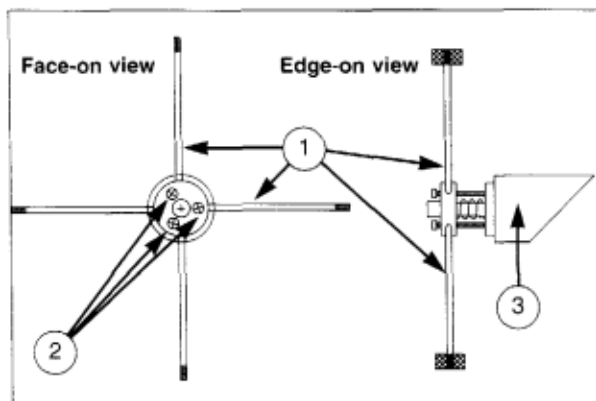
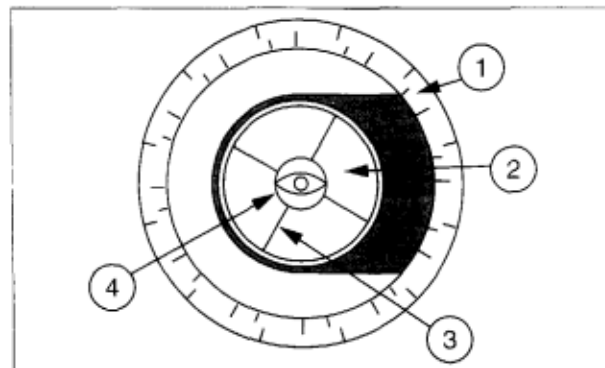
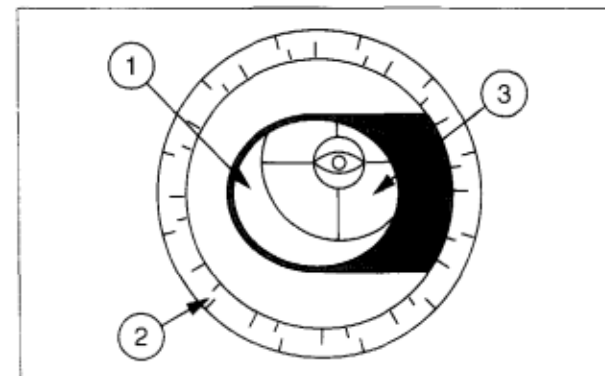
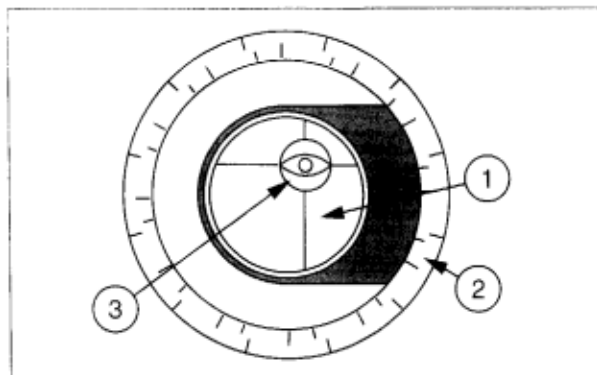

Fig. 13: Secondary Mirror Assembly. (1) Spider Vanes; (2) Tilt screws; (3) Secondary Mirror Holder.
Fig. 14: Correct Collimation. (1) Round Edge of Focuser Drawtube; (2) Secondary Mirror; (3) Spider vanes; (4) Eye.
Fig. 16: Secondary Mirror Misalignment. (1) Secondary Mirror; (2) Round Edge of Focuser Drawtube; (3) Reflection of Primary Mirror.
Fig. 17: Primary Mirror Misalignment. (1) Secondary Mirror; (2) Round Edge of Focuser Drawtube; (3) Eye.
To inspect the view of the mirror collimation, remove the eyepiece and look down the focuser drawtube. The round edge of the focuser drawtube (1, Fig. 14) will frame the reflections of the primary mirror with the secondary mirror (2, Fig. 1), the spider vanes (3), Fig. 14, and your eye (4, Fig. 14). Properly aligned, all of these reflections will appear concentric (i.e. centered) as illustrated in Fig. 14. Any deviation from the concentric reflections will require adjustments to the secondary mirror assembly (Fig. 13), and/or the primary mirror cell.
Looking down the open end of the telescope tube, check to see if the secondary mirror system is centered in the optical tube. If the assembly is off-center, loosen one of the spider vane adjustment/lock knobs while unscrewing the opposite knob. Only make adjustments to 2 knobs at a time until the secondary mirror is centered in the drawtube. When the spider vane is correctly positioned, the view through the drawtube will look like Fig. 16. (Note that the secondary mirror is misaligned.)
If the secondary mirror (1), Fig. 16, is centered in the drawtube (2), Fig. 16, but the primary mirror is only partially visible in the reflection (3), Fig. 16, the 3 hex screws located on the secondary mirror assembly (2), Fig. 13, must be unthreaded slightly to refine the tilt-angle of the secondary mirror until the entire primary mirror can be seen centered within the secondary mirror reflection. When the secondary mirror is correctly aligned, it will look like Fig. 17. (Note that the primary mirror is misaligned.)
If the secondary mirror and the reflection of the primary mirror (1), Fig. 17, appear centered within the drawtube (2), Fig. 17, but the reflection of your eye (3), Fig. 17, appears off-center, you will need to adjust one or more of the three primary mirror hex screws of the primary mirror cell. These primary hex screws are located behind the primary mirror, at the lower end of the main tube. Adjust the primary mirror alignment by slightly turning one hex screw at a time, looking through the focuser after each adjustment to determine if the mirror is moving in the correct direction.
- Remove the dust cover. You will see five wires coming off the motor. These wires all lead to one connector (8, Fig. 17) that plugs into the top corner of the circuit board, next to the fuse (7, Fig. 17). Unplug this connector (the motor plug) before you do any work on the motor.
- Tighten each of the three clutch pressure plate screws (12, Fig. 17) slightly until there is sufficient
Fig. 17: The Motor Drive System. (1) Clutch pressure plate; (2) Worm gear; (3) Worm block; (4) Dust cover; (5) Worm; (6) Circuit board; (7) Slow-blow fuse; (8) Motor plug connector; (9) Red wire; (10) Synchronous motor; (11) Back plate; (12) Clutch adjustment screws.
- Plug the connector (8, Fig. 17) back into the top corner of the circuit board, making sure that all 5 pins on the circuit board are covered by the connector. The connector should be oriented so that the wires are leading away from the board, not crossing over the board. Note the location of the red wire (9, Fig. 17). Replace the dust cover.
- Loosen the two screws that hold the worm block (3, Fig. 17) to the back plate (11), Fig. 17.
- Fit the worm (5, Fig. 17) snugly against the spur gear (2, Fig. 17) with just a small amount of play.